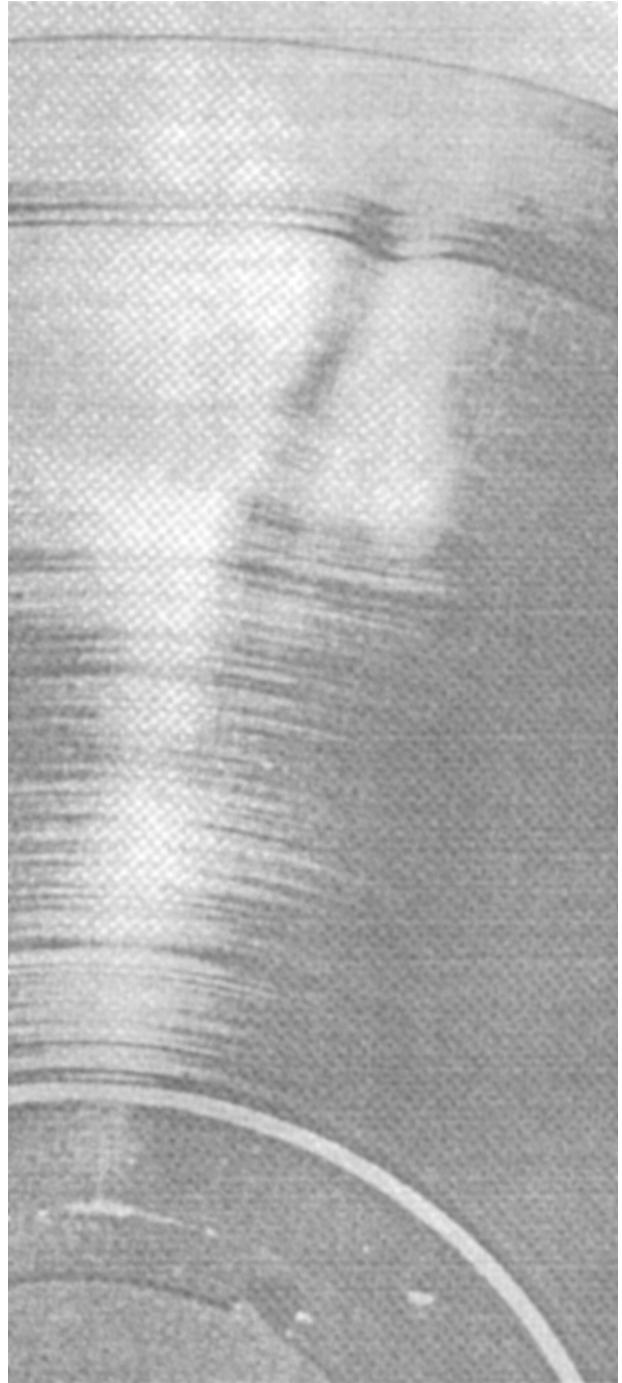

Figure 9-6.—A spoked tape pack.
- **Spoking**— Spoking occurs when a magnetic tape is wound onto the tape reel with the tension increasing toward the end of the winding. The higher tension on the outside of the tape pack causes the inner pack to buckle and deform. Spoking is also caused by the uneven pressures created when the tape is wound on a distorted hub, or when the tape is wound over a small particle deposited in the reel. Figure 9-6 shows a spoked tape pack.